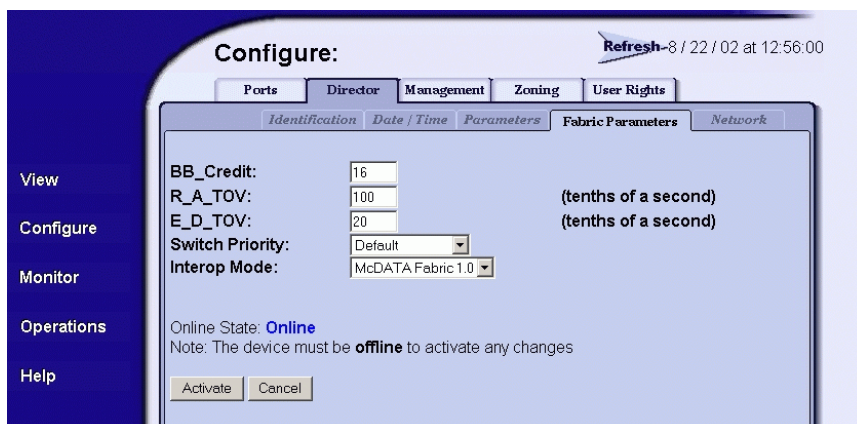

Figure 2-70 Configure Panel (Director Page with Fabric Parameters Tab)
3. At the *Configure* panel, click the *Director* tab, then click the *Fabric Parameters* tab. The *Director* page displays with the *Fabric Parameters* tab selected (Figure 2-70).